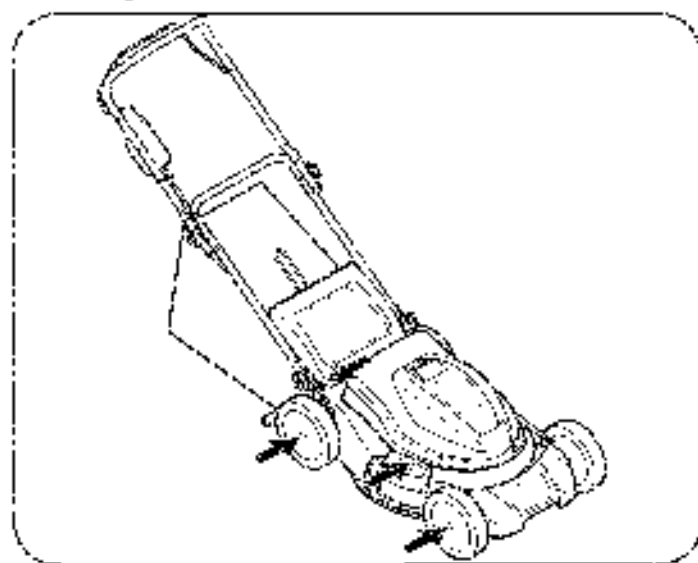

Figure 10
- Lubricate the wheels at least once a season with light oil (or motor oil). If wheels are removed for any reason, lubricate surface of the pivot arm and inner surface of the wheel with light oil. See Figure 10.
- Lubricate the torsion spring and pivot point on the rear discharge door and discharge plug periodically with light oil to prevent rust. See Figure 10.